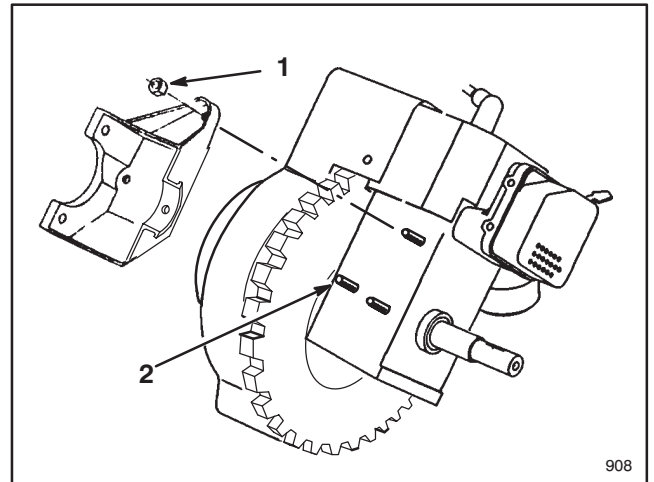

Figure 7
1. Motor mounting bracket 3. Screw (2)
9. Remove (3) three fasteners securing motor mounting bracket to engine.
A If bracket was secured to engine with studs and nuts (Fig. 7), remove (3) three nuts and bracket. Then remove right hand stud (nearest to flywheel) (Fig. 7) using a vise grip.